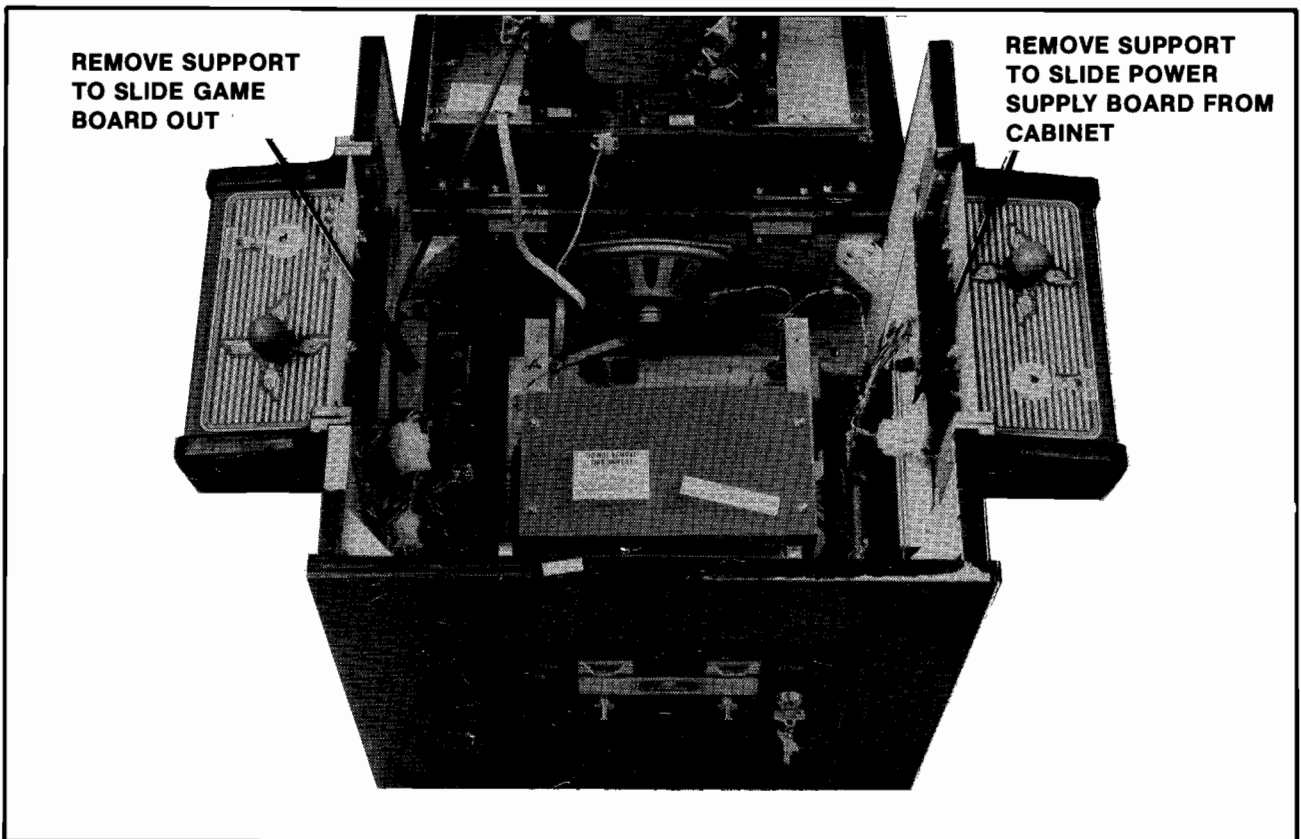

Figure 2-14 Removing P.C.B.'s — Cocktail
**3. COCKTAIL TABLE MODEL:** See Figure 2-14.
- To remove the power supply board. See Figure 2-14.
- To remove the game and Sound boards. See Figure 2-14.